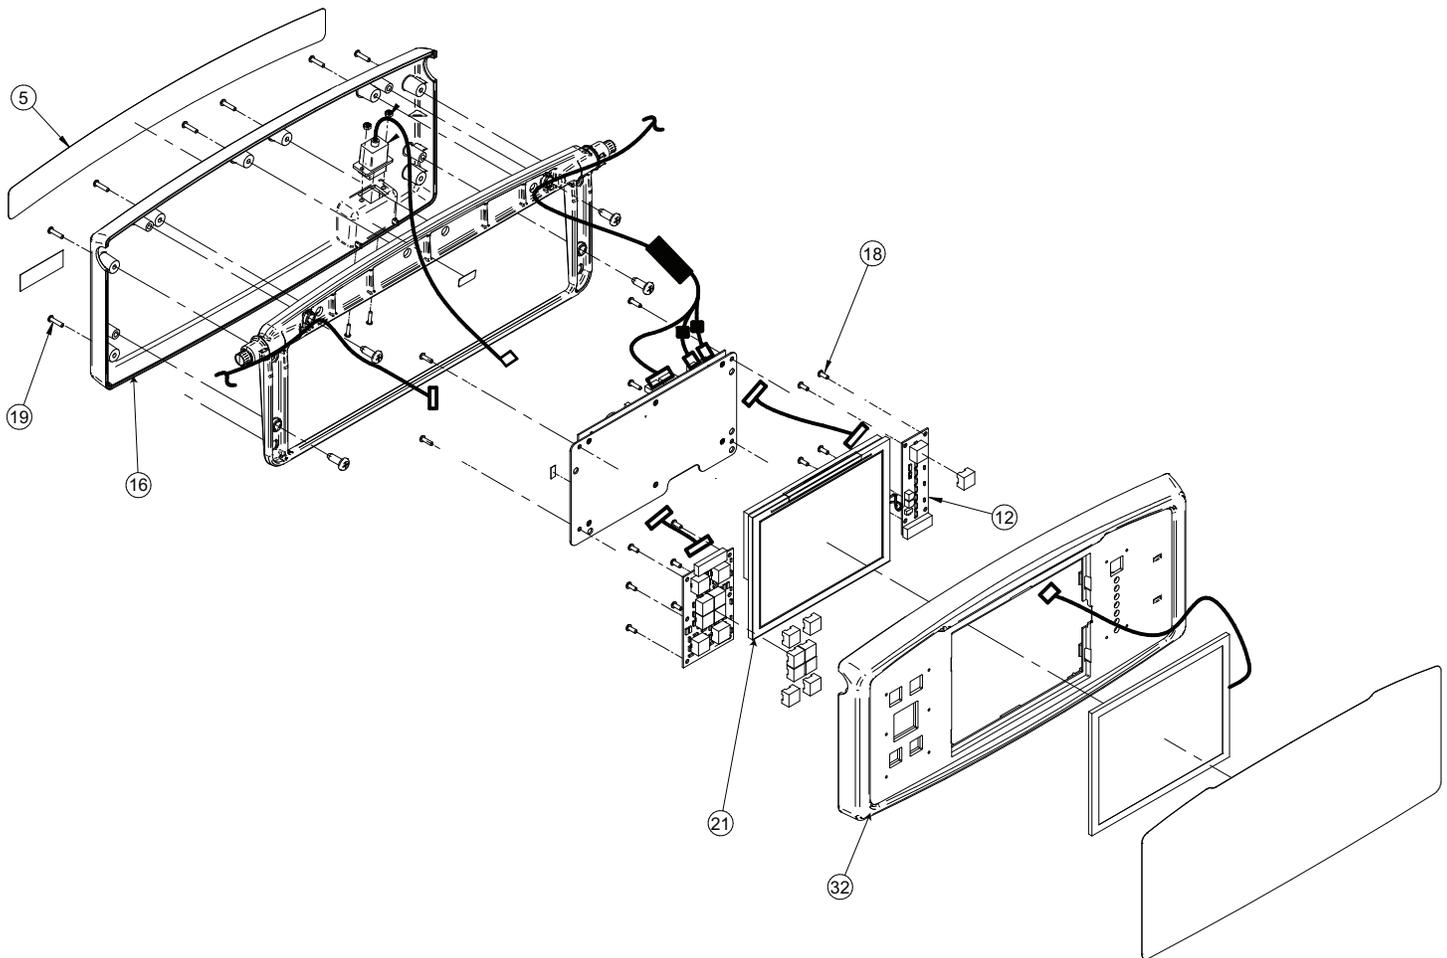

Figure 60 – Footboard assembly
2. Using a small slotted screwdriver, remove the fascia back foot control label (5) (Figure 60).
3. Using a #2 Phillips screwdriver, remove the six screws (19) that secure the front nurse panel (32) to the rear footboard control (16) (Figure 60). Save the screws.
5. Using a #2 Phillips short screwdriver, remove the two screws (19) from the bottom of the front nurse panel (32) (Figure 60). Save the screws.
10. Turn the LCD display up (21) (Figure 60).
12. Remove the display housing and unplug the two cables from the main menu board (12). Set the display assembly on a bench.
13. Using a #2 Phillips screwdriver, remove the four screws (18) that secure the main menu board (12) to the front nurse panel (32) (Figure 60). Save the screws.